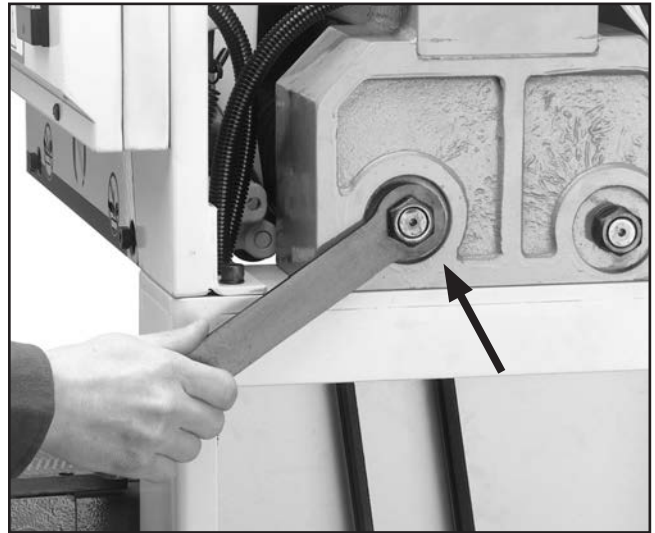

Figure 37. Remove this roller shaft nut located behind right-hand access door.
- Open the right-hand access door and locate the large nut shown in **Figure 37** and remove it with the box wrench included with the machine.